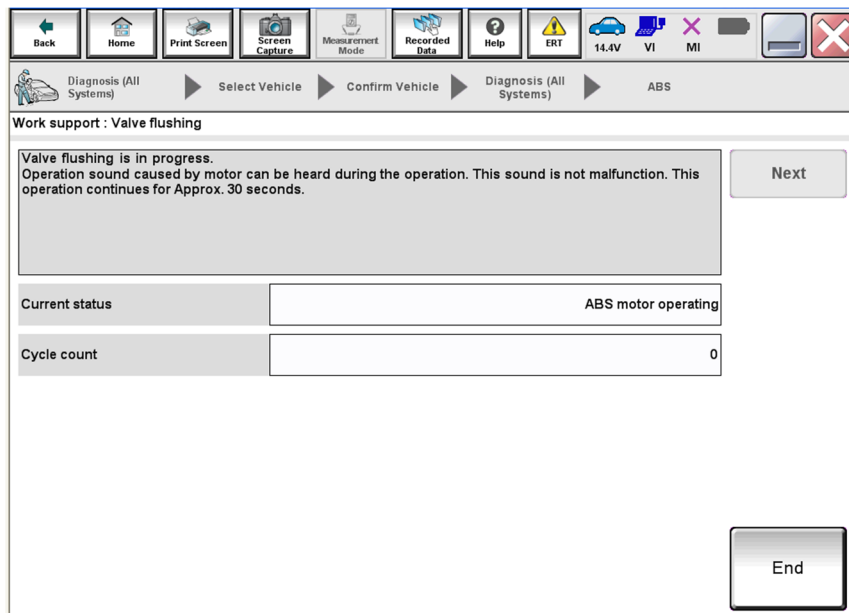

Figure 13
- a. When ABS motor buzz sound is heard (“ABS motor operating” displayed; Figure 13), **RELEASE** the brake pedal.
- After Next is selected (step 23), Figure 13 will be displayed with Current status of “ABS motor operating”.
- This operation will continue for thirty (30) seconds.